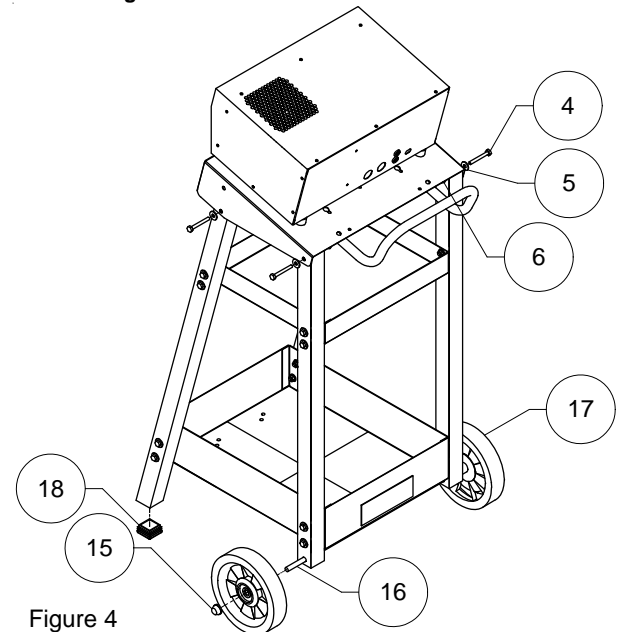

Figure 4
5. Tap one axle nut (15) onto one end of the axle (16) with a rubber mallet. Slide one wheel (17) onto the axle. Push the axle through the holes located on the bottom of the back legs. Slide the second wheel onto the axle. Tap the second axle nut onto the axle.
6. Press the feet inserts (18) into the bottom of the front legs.
8. Place the top plate/control unit assembly on the assembled cart. Fasten the top plate to the back legs with 2 each bolts (4), washers (5) and nuts (6). Attach the top plate to the front legs. The top plate has two pairs of holes so the viewing angle can be adjusted. Bolting through the top pair of holes will mount the top plate in a flat position. The lower pair of holes will elevate the plate at a 15° viewing angle. See Figure 4